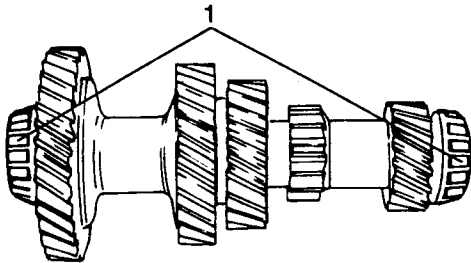

Fig H1.75
- (2) Refer to Fig H1.75. Remove the front and rear bearings (1).